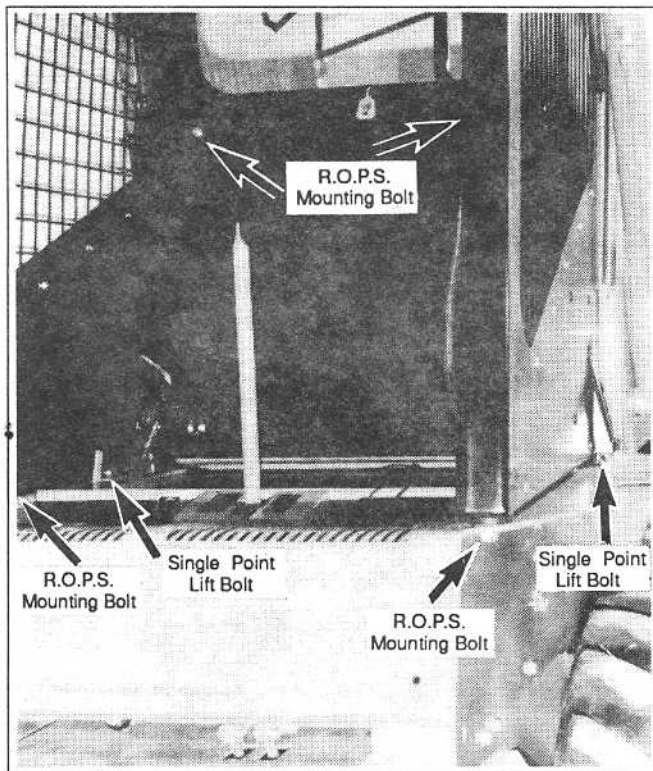

Figure 1-1
The ROPS is isolated from the frame by rubber mounts and secured by four (4) bolts, one at each lower front corner and two in the rear wall below the window. (See figure 1-1)
The ROPS is also designed to allow the machine to be raised off the ground from a single overhead lift point by attaching a special Single Point Lift Kit to the top of the ROPS. Because of this feature, a special mounting bracket is used at the lower left and right rear corners. Refer to installation instructions step (5) for proper spacing and torque. These bolts must also be removed for R.O.P.S. removal. (See figure 1-1)